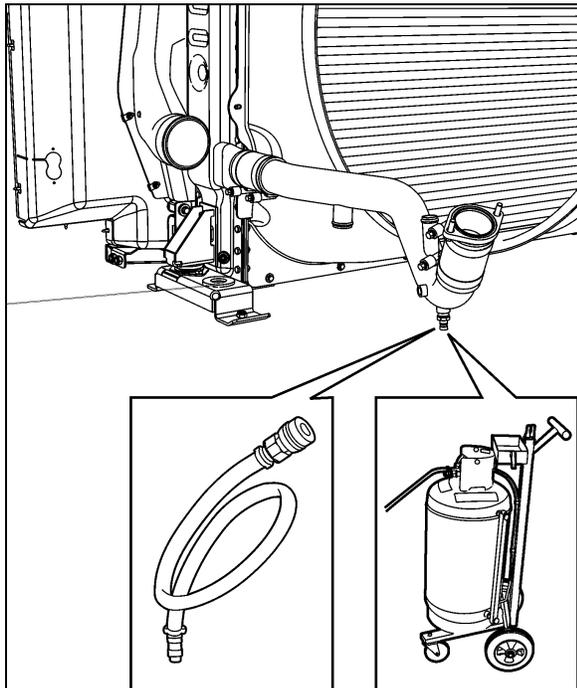

FIGURE 7: EXTRACTING COOLANT
5. Connect coolant extractor (Figure 7). Use coolant extractor to drain the coolant from the engine. An alternate method is to drain the coolant into a suitable container using the drain hose.